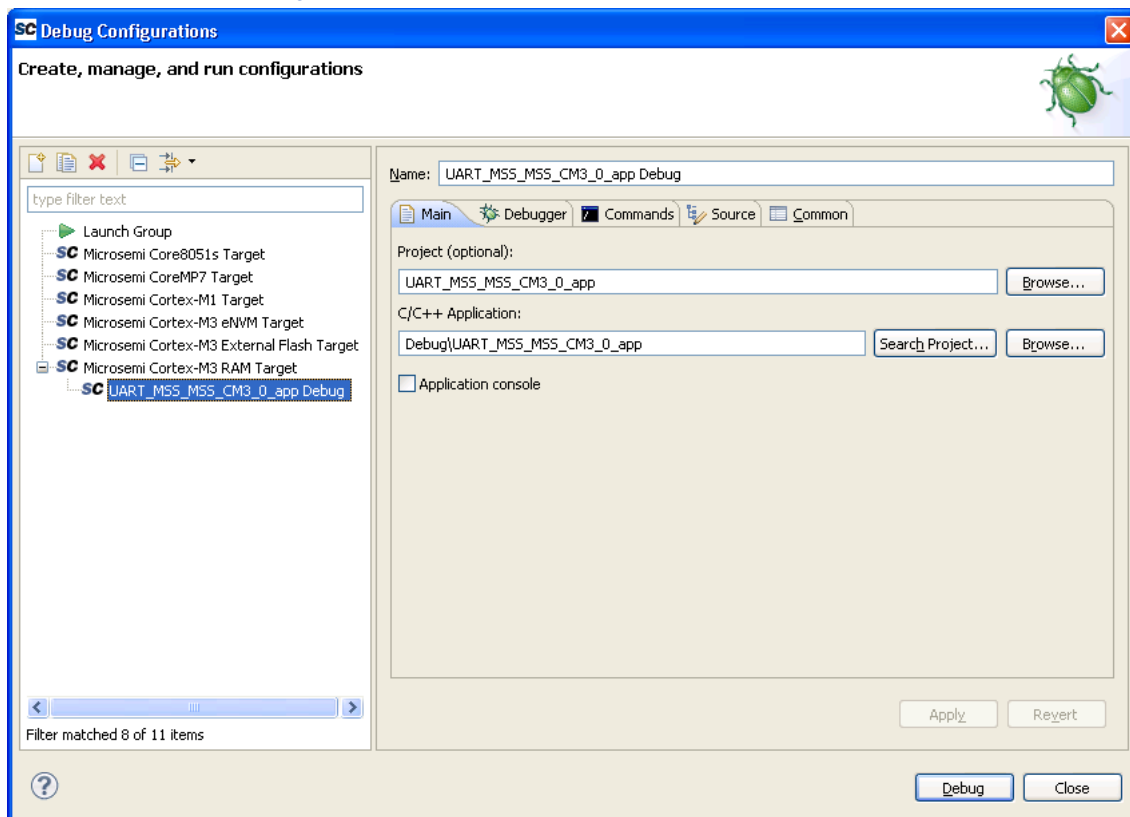

Figure 21 · Debug Configurations Window
2. Double-click on **Microsemi Cortex-M3 RAM target**. The **Debug Configurations** window is displayed, as shown in Figure 21 . .